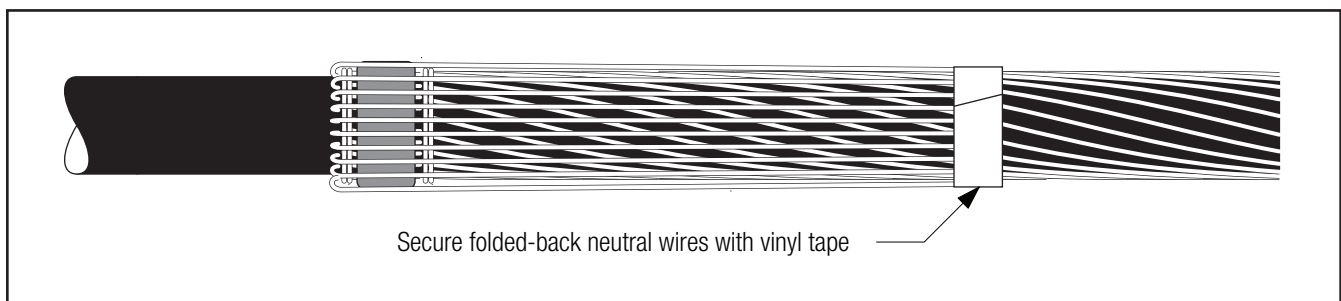

Figure 9
- 2.3.5 Fold neutrals over mastic seal and temporarily secure ends with vinyl tape (*Figure 9*).